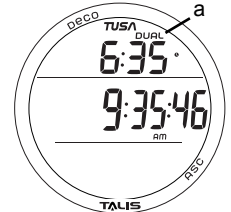

Fig. 7C - DEFAULT TIME (Main with Dual)
Dual Time, identified by the AWAY icon (Fig. 7C a), is an additional time which is usually Alternate Time but can be Main Time depending on which one is not selected to be the Watch Default.
- When an Alternate Time is set, and Show Dual Time is set for YES, both Times will be displayed on the Watch Default Time screen (Fig. 7C).